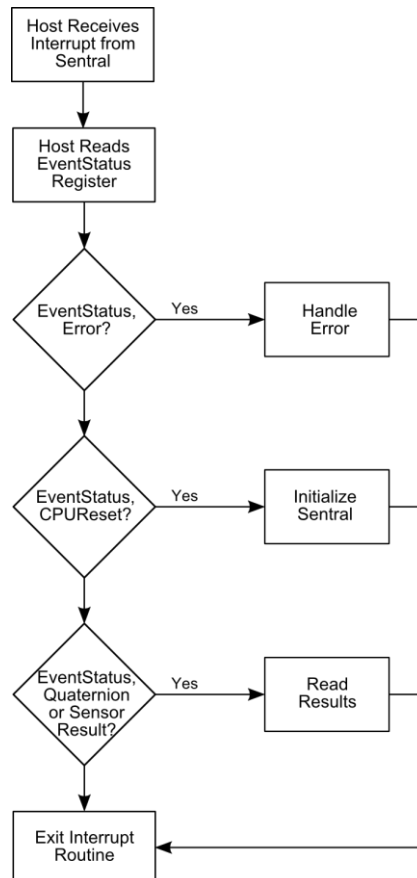

Fig. 6 *SENtral* Normal Operation Flow
- Interpret and act on the EventStatus register in the priority shown in Fig. 6. If bit [1], the Error bit, is '1' or if bit [0], the CPUReset bit, is '1', see "Section Error and CPUReset". If bits [2], [3], [4], or [5], the Results bits, are '1', read the desired data (see Section "Read Results").
**Reading the EventStatus register clears it.** It is possible for more than one bit position to be '1' in the EventStatus register, especially if the host does not always read the EventStatus register after receiving an interrupt. Similarly, if multiple bits are set to '1' in the EventStatus register, once the register is read all the bits will be set to '0'. For this reason the EventStatus register should be processed in the priority shown in Fig. 6, as information will be cleared for events that are not handled.